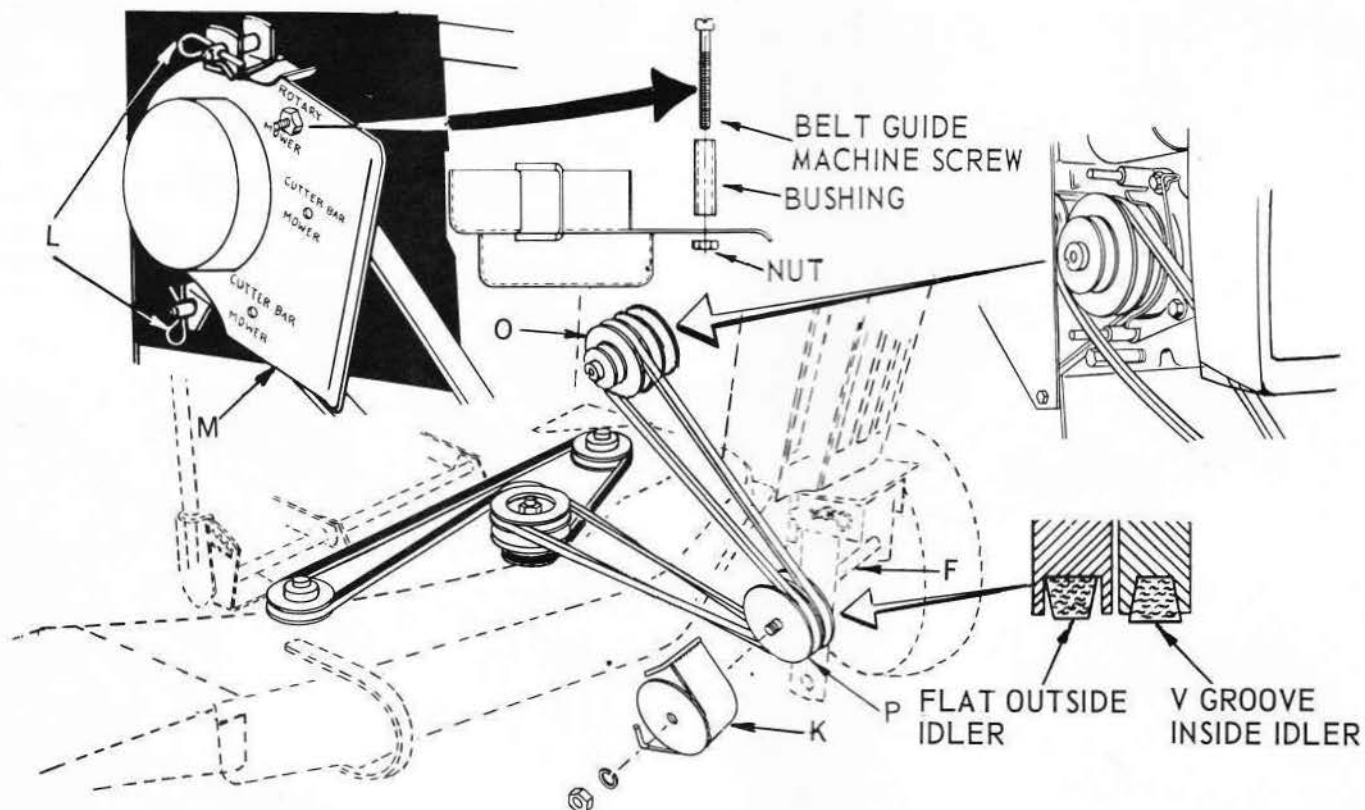

FIG. 13
23. Refer to Fig. 13. Replace belt guide (K) on front idler shaft (F) adjust belt guide (K) so that it clears belt by 1/16 to 1/8 inch, when belt is tight (clutch engaged) and mower is in lowest cutting position. Then raise mower to highest cutting position and check belt guide (K) to make certain it clears the belt by 1/16 to 1/8 inch at top.
24. Reinstall engine belt guard (M) on engine, and secure with two retainer springs (L).
1. Remove engine belt guard (M) Fig. 13.
2. Remove belt from engine pulley (O, Fig. 13).